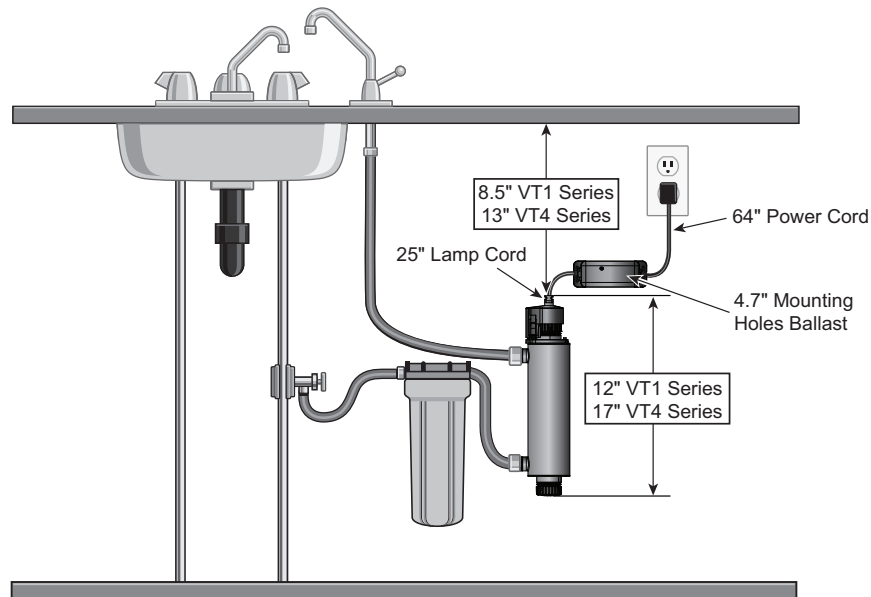

Figure 3 Typical Installation
1. Figure 3 shows the installation of a typical point of use (POU) system and the related components that may be used for the installation. The use of a by-pass assembly is recommended in case the system requires off-line maintenance. In this case, note the system requires a supplementary disinfectant for the distribution system if any water is used during by-pass condition. In addition, during by-pass, the water will NOT be treated and a “DO NOT CONSUME THE WATER” tag should be physically installed on the by-pass assembly until such time as the system is sanitized and returned to service. For more information, refer to Section 3.2. If the water is to be consumed while the system is off-line, the water must be boiled for two minutes prior to consumption.